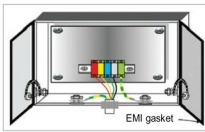

Fig. 25: Bonding in electronic cabinet
**Bonding in electronic cabinets.** In any electronic cabinet, direct metal-to-metal contacts/bonds give best RF performance since the contact is over the entire surface rather than a single point. For this reason it is imperative to have local RF reference in the form of a metal plate or sheet, and not a single bolt or stub, as shown in Fig. 25.